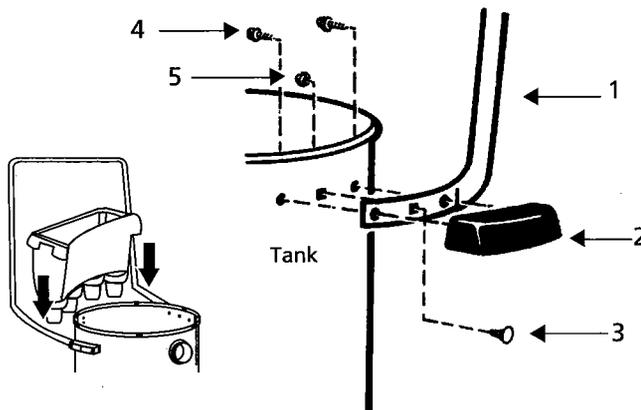

Figure 5 — Repair Parts Illustration for Handle Assembly for Models 4TR11B thru 4TR13B
8. Stand vacuum up on dolly. Place metal carriage handle between tank and plastic side handles, and fasten tightly with screws provided. Be sure to spread ends of carriage handle when assembling to prevent damage to tank (See Figure 5).